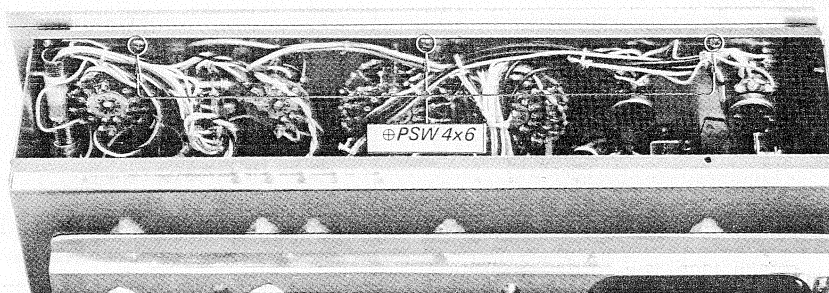

Fig. 2-2 Front-panel removal
3. Remove the three screws (+PSW 4x6) behind the top edge of the front subchassis as shown in Fig. 2-2.